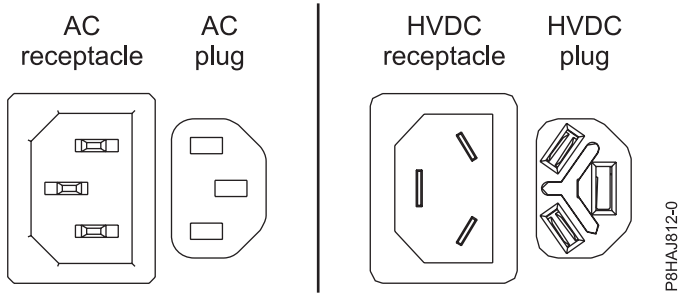
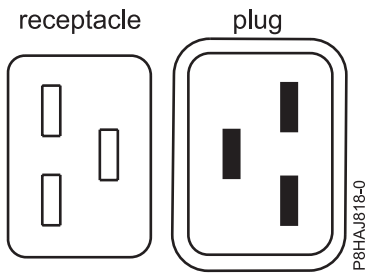
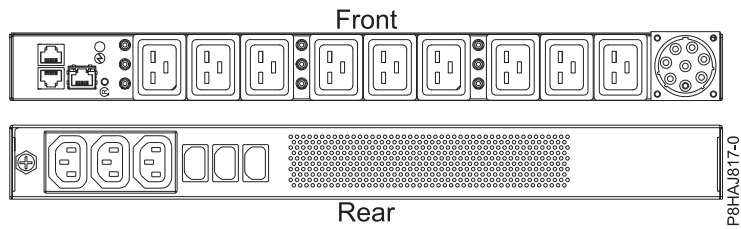

Figure 27. AC and HVDC connectors
Figure 28. Connectors for the 8408-44E system
Figure 29. PDU for the 8408-44E system
Figure 27 on page 49 shows the supported alternate current (AC) and high voltage direct current (HVDC) connectors. Figure 28 on page 49 and Figure 29 on page 49 show the supported connectors and power distribution unit (PDU) for 8408-44E.